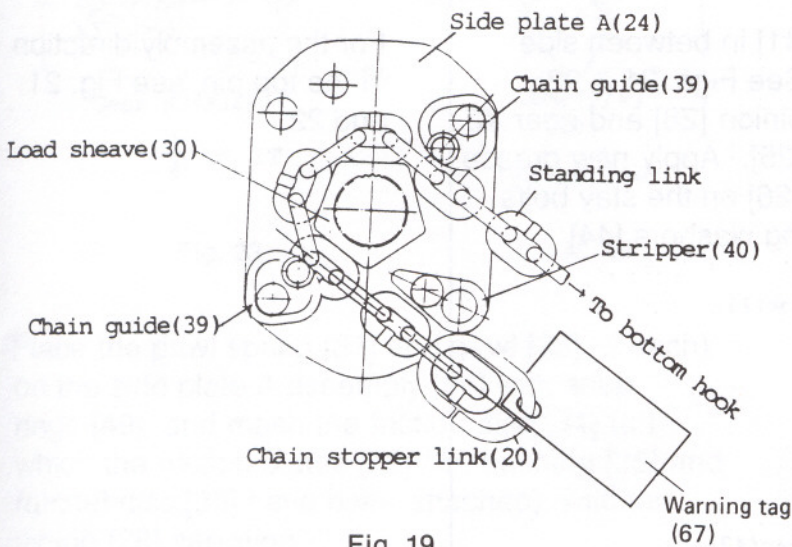

Fig. 19
3. Place the longer side of the stay bolts of side plate A assembly [24] up and fit the load sheave [30] (serration part facing up) with load chain [66], chain guides [39] (2) and stripper [40] (see Figure 19 for direction of assembly). Then place side plate B assembly [25] on the stay bolts. Assemble chain stopper link [20] with warning tag [67] to the next link of the end link as shown in Figs. 19 & 20. Then close the opening of the chain stopper link. The proper way to assemble the load chain is shown in Fig. 19.